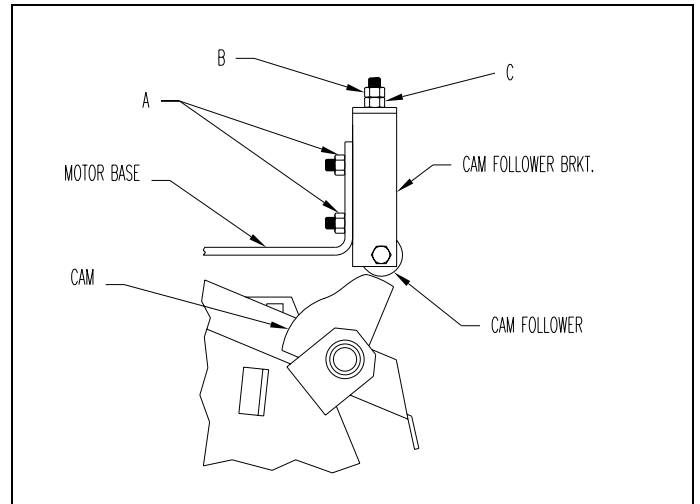
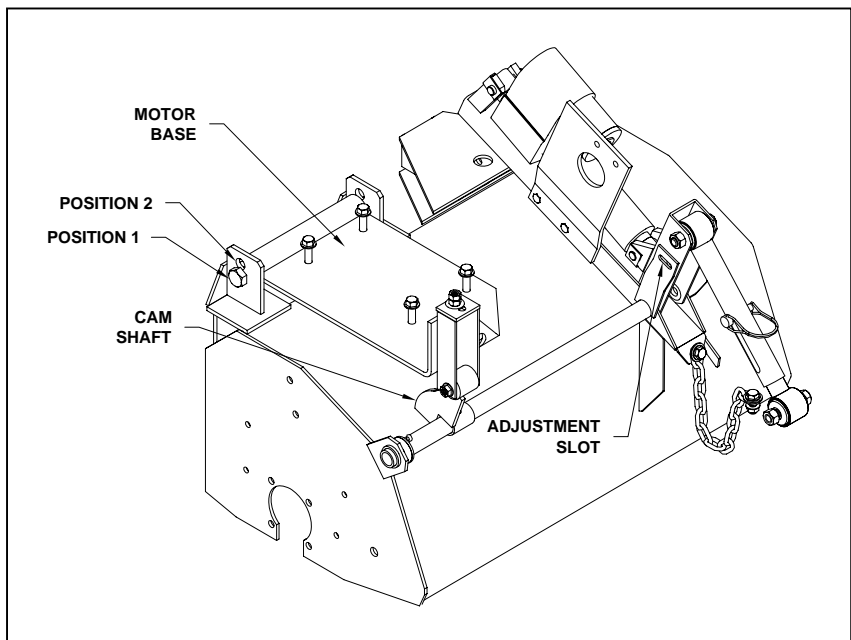

Figure 6A. *Loosening/Tightening Belts*
Figure 7. Motor Base/Cam Shaft Adjustment
operating position as shown in Figure 6A. If the cam follower is not in the correct position as shown when the Actuator is fully retracted, see Figure 7 for adjusting the cam follower.
Loosening The Belts (see Figure 6A)
Cam Follower Adjustment (see Figure 7)
4. Rotate Cam Shaft so that the cam and cam follower are positioned as shown in Figure 6A.
If there is no adjustment left in the cam follower bracket, the rear of the engine base needs to be moved from position **1** to position **2** as shown, (see Figure 7). The belt drive will then need to be adjusted either by loosening or tightening the belts as described previously. **NOTE:** New belt installation may require position change in engine base if it has been moved from **1** to **2**.